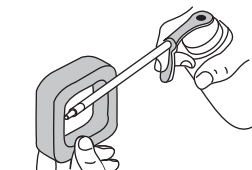

Fig. 32
- Apply enough clean SAE 30 motor oil to lightly coat the filter (Fig. 32).